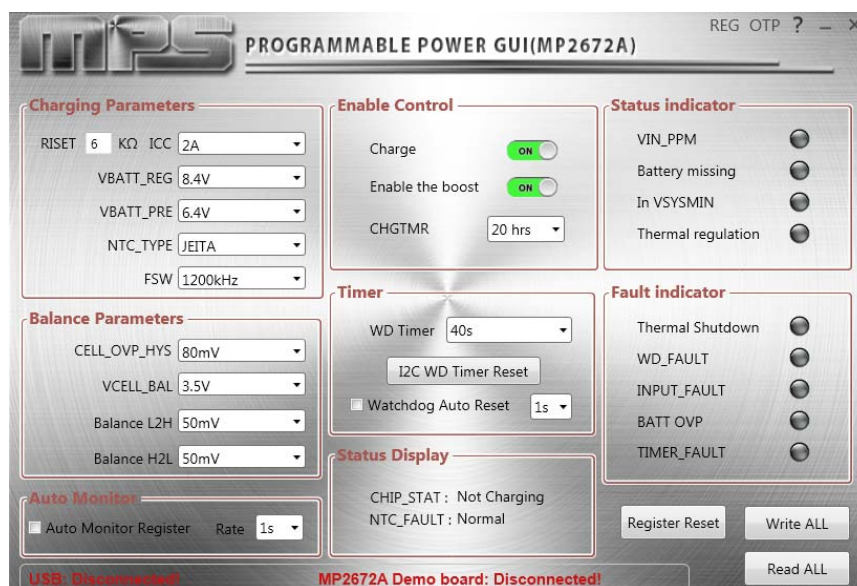

Figure 4: Main Software Window
- 8) Turn the computer on, then launch the MP2672A evaluation software. Figure 4 shows the main software window of the GUI software.